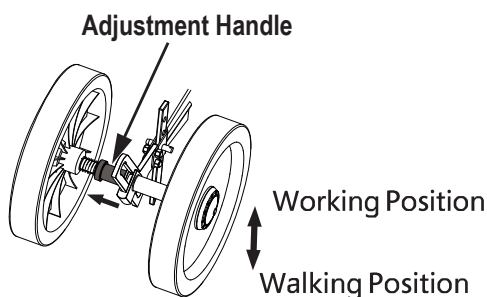

Figure 13
- Slide the adjustment handle to the left and move the wheels downwards. (See Figure 13)
- Slide the adjustment handle to the left and move the wheels up. (See Figure 13)